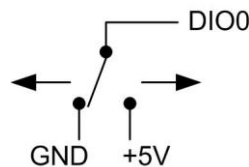

Figure 4. Schematic showing switch detection by digital channel DIO0
When you configure the digital bits for input, you can use the USB-TC-AI digital I/O terminals to detect the state of a TTL-compatible device. Refer to the schematic shown in Figure 4. If you set the switch to the +5V input, DIO0 reads *TRUE* (1). If you move the switch to the GND, DIO0 reads *FALSE* (0).